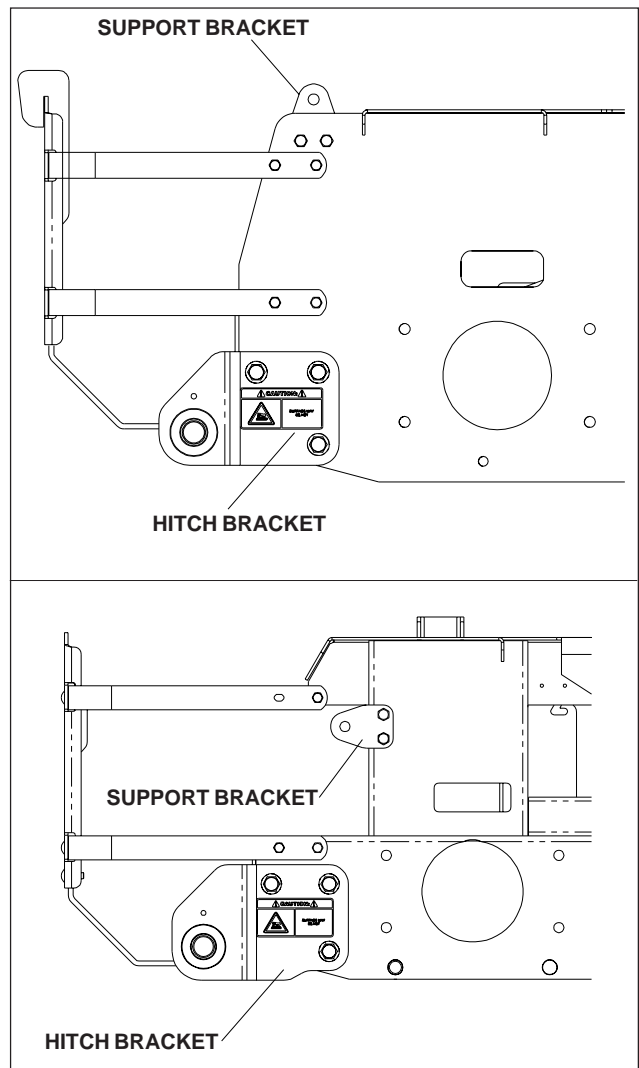

FIGURE 1
2. Place the support bracket on the frame and secure with (2) 990563, 3/8 x 1 bolts and (2) 976979, 3/8 nyloc nuts. Figure 1.
3. Place the hitch brackets on the frame and secure with (3) 990622, 1/2 x 1 1/4 bolts and (3) 101331, 1/2 nyloc nuts. Figure 1.